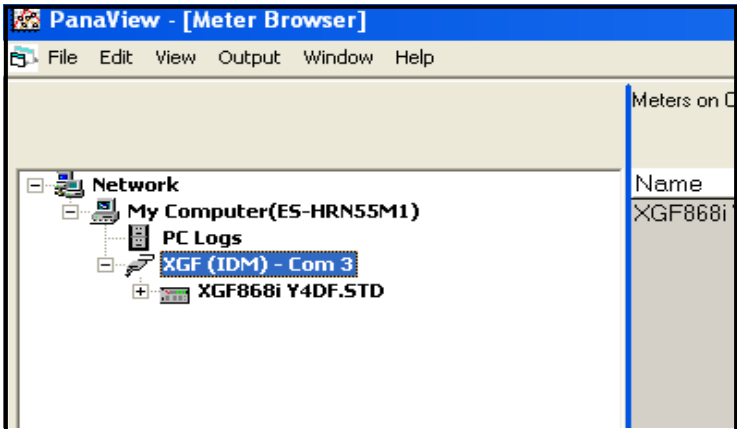
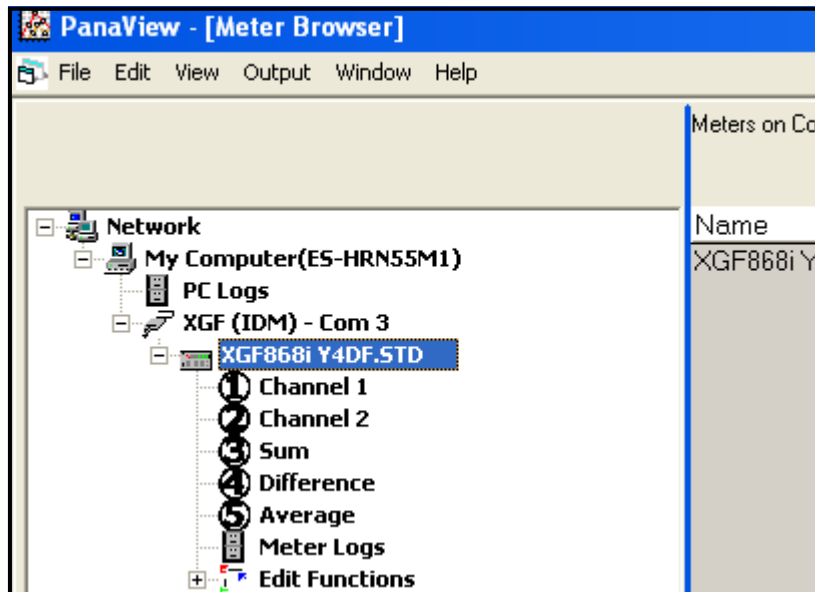

Figure 37: Updated Network Tree
Figure 39: Meter Tree with *Edit Functions* Option
If the initialization is successful, the *Meter Browser* shows a listing similar to *Figure 37* below.
1. From the meter tree in the *New Meter Browser* (see Figure 37 on page 75), click on the XGF entry. The screen now appears similar to Figure 39 below.